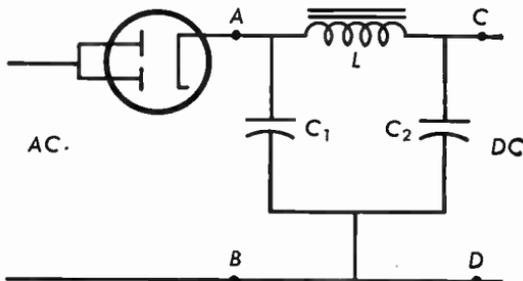

Fig. 9.01a Half-wave rectifier with filter circuit.
9.01 The rectifier type 25Z5 is used in the rectifier circuit of Figure 9.01a. The line voltage is 117 volts, 60 cycles, $L = 15$ henries, $C_1 = C_2 = 16$ microfarads. The resistance of the choke is 30 ohms. The d-c load draws 50 milliamperes from the rectifier. What is the *approximate* ripple voltage at AB? At CD?